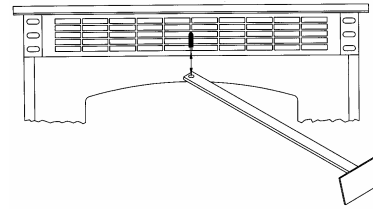

FIGURE 22
- With the door closed clean heat exchanger tubes. (See "**CLEANING**" and Figure 22).
- Clean heat exchanger tubes (see "**CLEANING**" and Figure 22).
- Heat Exchange Tubes** – Your Breckwell stove is designed with a built-in heat exchange tube cleaner. This should be used every two or three days to remove accumulated ash on the tubes, which reduces heat transfer on the P24. Insert the handle end (with hole) of the cleaning tool onto the cleaning rod (refer to figure 22). The cleaner rod is located in the grill above the stove door. Move the cleaner rod back and forth several times to clean the heat exchanger tubes. Be sure to leave tube cleaner at the rear of the stove.